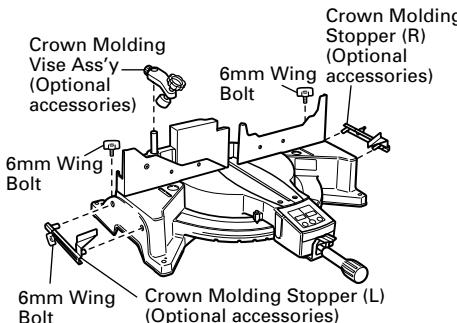

Fig. 34-a
(1) Crown molding Stopper (L) and (R) (optional accessories) allow easier cuts of crown molding without tilting the saw blade. Install them in the base both-sides side to be shown in Fig. 34-a. After inserting Tighten the 6mm knob bolts to secure the crown molding Stoppers.